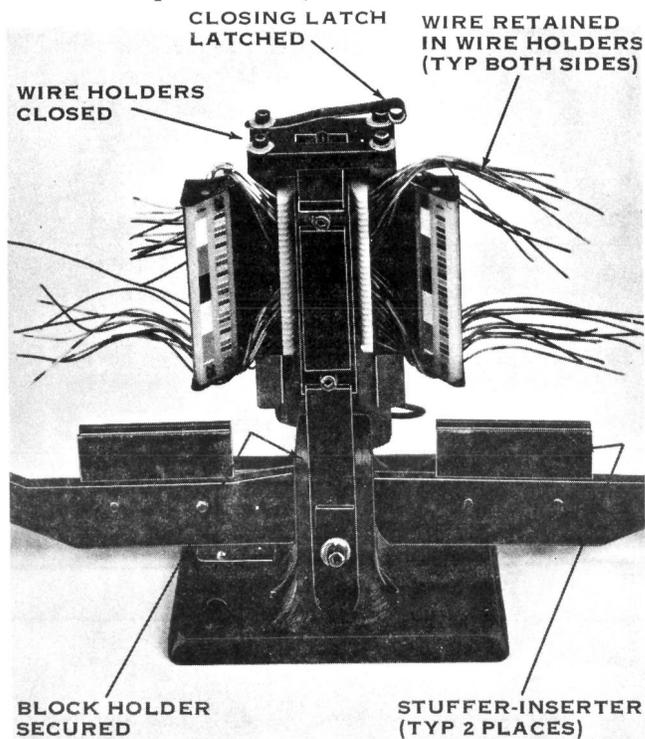

Fig. 4
4.02 Pivot wire holders to the vertical position, one at a time, to mesh and secure block holder. Ensure wires remain in combs, are not pinched, and the closing latch is securely latched to assure wire placement. (Refer to Fig. 4.)